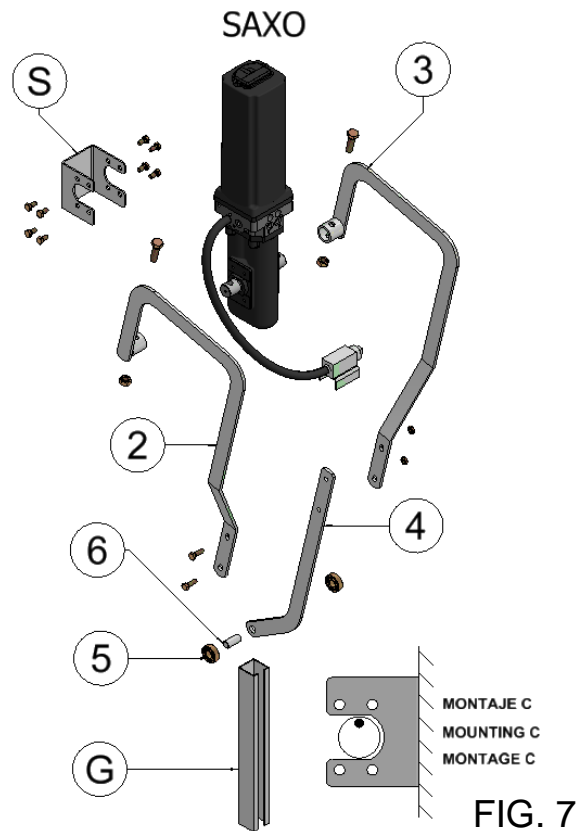

FIG. 7
Installation accessories Figure 7.
2. The point marked on the rotary shaft on the right-hand side of the operators 1RM* and 2RMI* and must be as shown in figure 7. Before welding parts "1", "2", "3" and "4" of figure 7 to the operator as shown in figure 7 the operator should be rotated approximately 5 degrees away from the end position. Then fit parts "5" and "6" of figure 7.
3. Fix part "G" of figure 7 to the door as shown in figure 5.